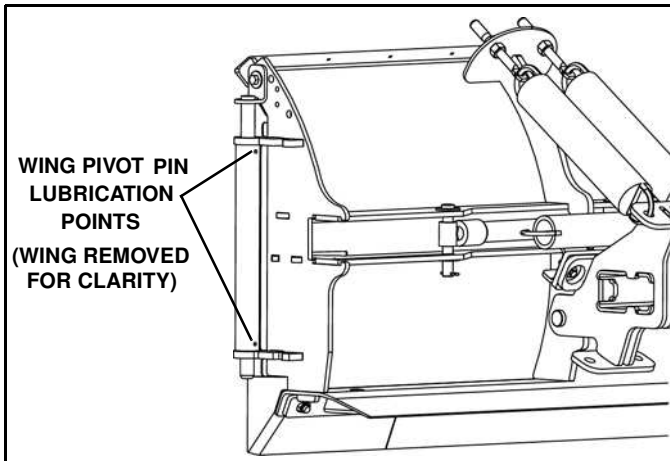

Figure 1-54
4. Fold the wings slightly and apply oil or grease to the wing pivot pins through two lubrication holes provided in each pin housing. (See Figure 1-54).